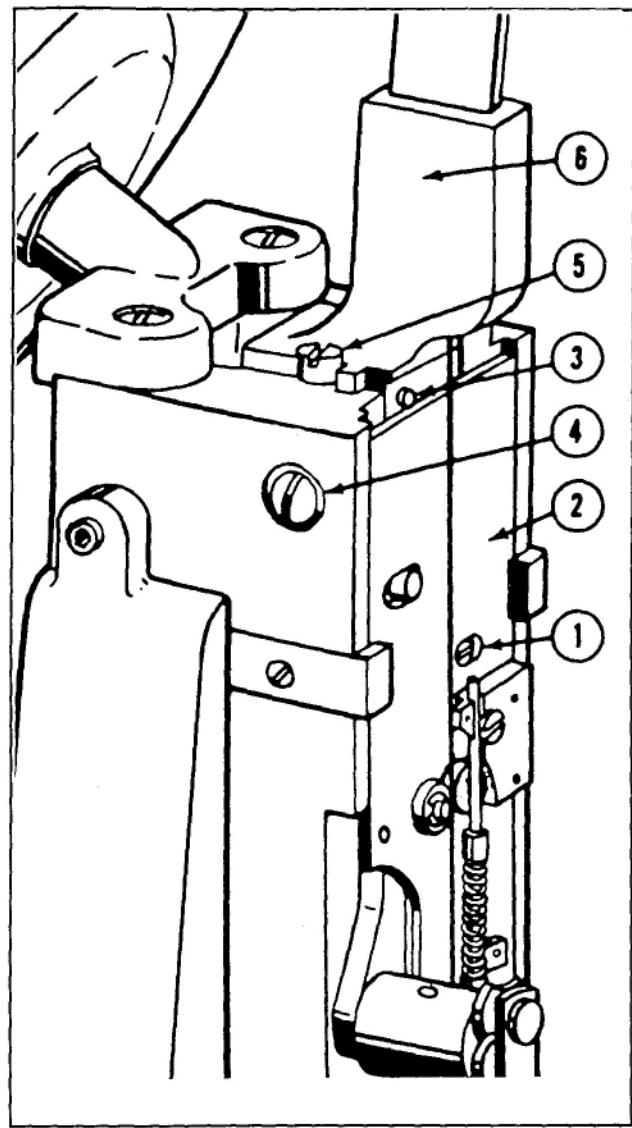

FIGURE 6
7. ADJUSTING LENGTH OF STAPLES: (See Fig. 6)
a) To change the length of both legs of the staple, loosen the face plate adjusting screw (1) and push the face plate (2) up to lengthen, or down to shorten, the legs of the staple. Tighten the screw (1) after adjusting.
b) To increase the left leg of a staple, loosen the wire guide spring bracket adjusting screw binder (3) and the wire guide spring bracket screw (4), then turn the wire guide spring bracket adjusting screw (5) counterclockwise. Press down firmly on the wire guide spring bracket (6) until the bottom of the head of the adjusting screw (5) bears against the top of the bonnet casting. Tighten the binder screw (3) and the screw (4). A quarter turn of the adjusting screw makes a considerable difference in the length of the leg. Turn the adjusting screw clockwise to shorten the leg.